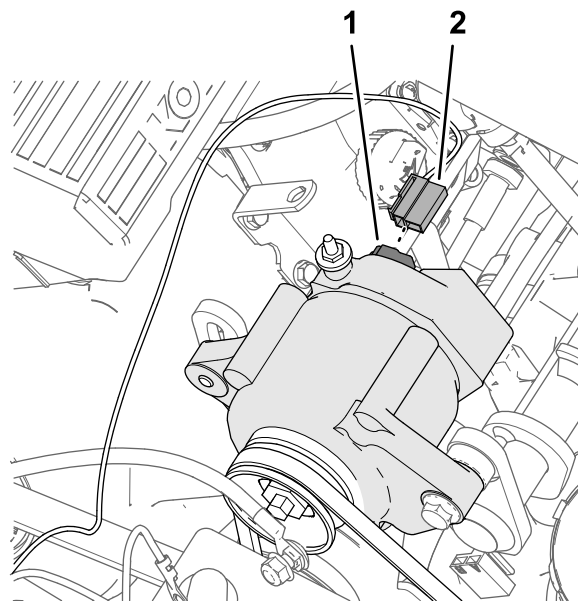

Figure 231
- Connect the 2-socket at the end of the pink wire 57 cm (23-1/2 inches) of the kit sprayer harness (Figure 231) onto the 2-pin connector of the alternator (50 A).